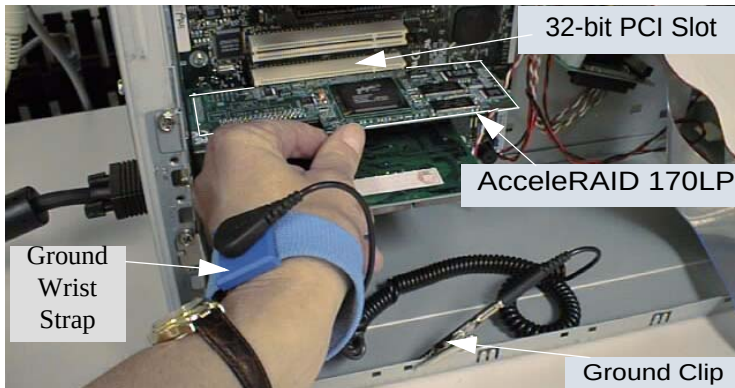

Figure 2-7. Plug the Controller Board into any 32-bit or 64-bit PCI Slot
1. With the power off, plug (install) the AcceleRAID 170LP controller firmly into any 32-bit or 64-bit PCI slot as shown in Figure 2-7.